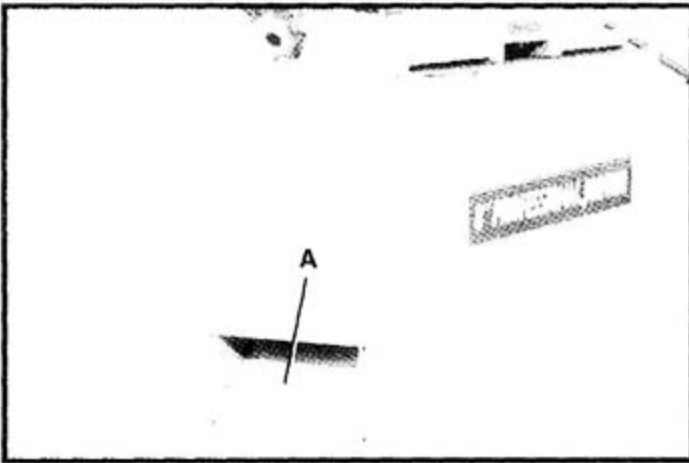
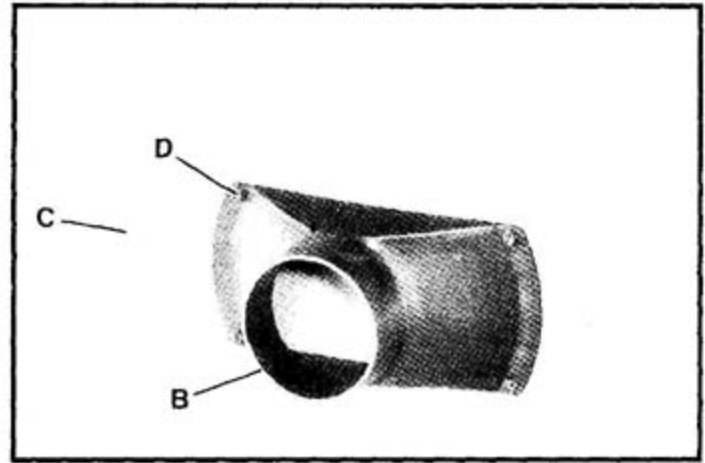

Fig. 26
Fig. 27
The jointer has a built-in dust chute (A) Fig. 26, to expel sawdust efficiently during cuts. If you will be connecting a dust collection system to the jointer, a dust collector connector (B) Fig. 27, is supplied and can be fastened to the jointer stand (C) with four screws (D) as shown.